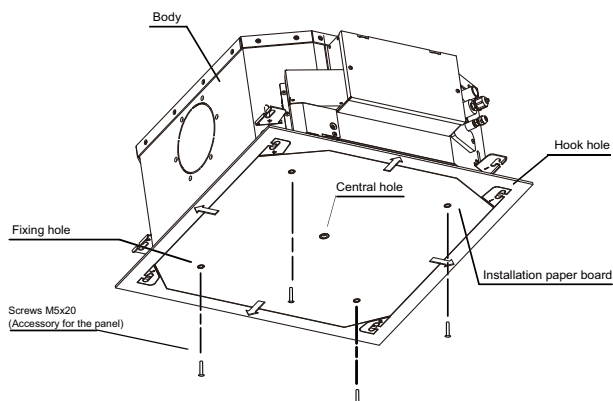

Figure 3.8
2. Once you have lifted and mounted the unit, use M5x20 screws (included with the installation board) to secure the installation board (accessory 2) on the unit body. Make sure you verify the size and positions of the opening in the ceiling and maintenance access before you do so. See Figure 3.8.